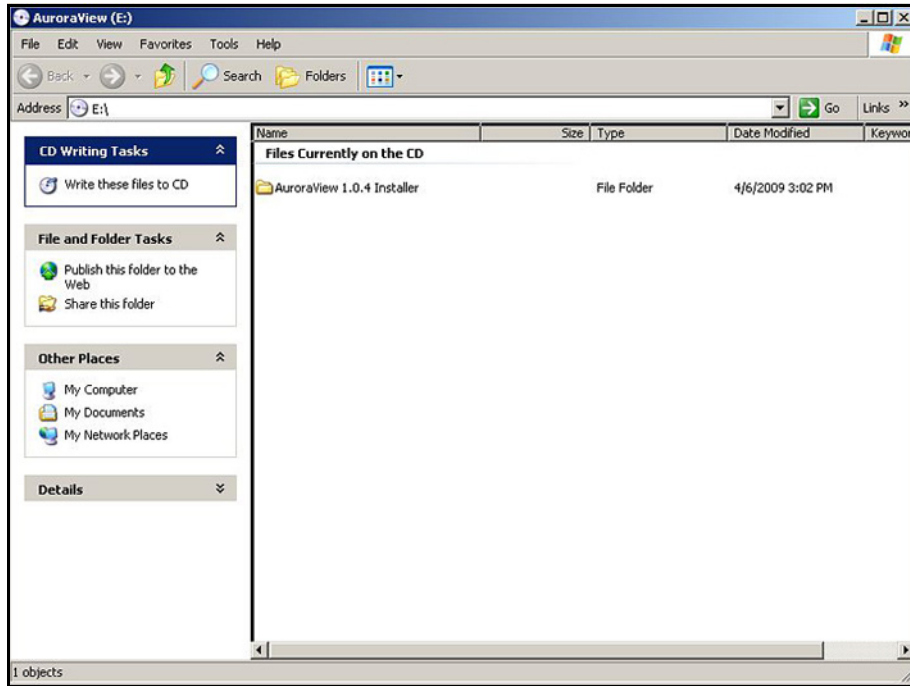

Figure 51: Initial Screen
2. The installation program should launch automatically (see *Figure 51* below). If it does not, select Start → Run → Browse.